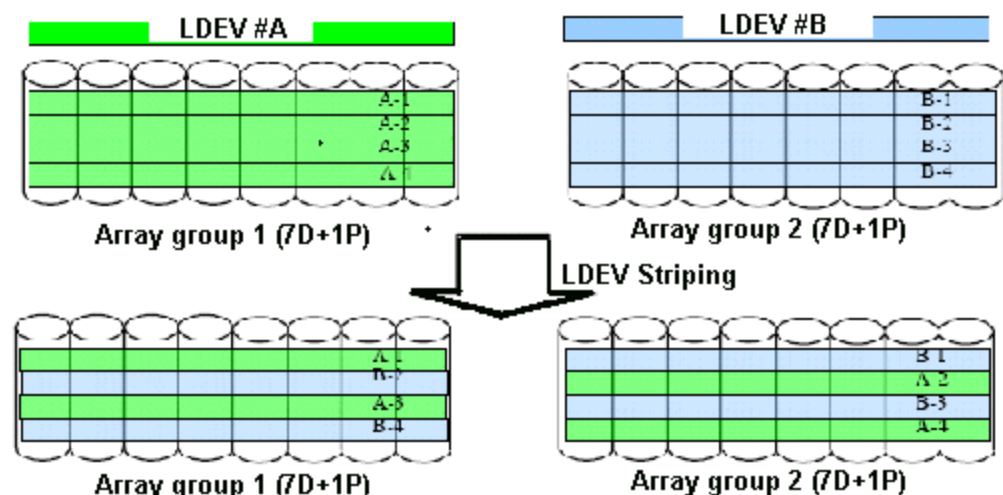

Figure 2-4 LDEV Striping Across 2 RAID 5 (7D+1P) Array Groups
- LDEV striping across two RAID 5 (7D+1P) array groups. The maximum number of LDEVs in this configuration is 1000. See Figure 2-4 LDEV Striping Across 2 RAID 5 \(7D+1P\) Array Groups on page 2-5.